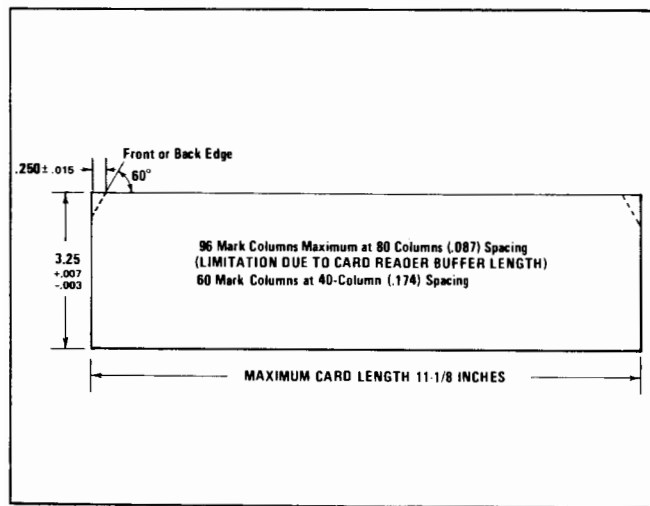

Figure A-1. Dimension Specifications for 11-Inch Cards
A-4. The HP Mark Readers use standard size tab cards (3-1/4 inch x 7-3/8 inch) for data entry. Each standard card can contain a maximum of 12 rows and 80 columns of data. Data on the cards may be coded by punch, by marking pre-printed boxes with an ordinary soft-lead pencil or coded by a combination of punched holes and marks. Cards up to 11-1/8 inches with 96 data columns can be read (see Figure A-1; 96 columns maximum per 11-inch card, 80 columns maximum per 7-3/8-inch cards). Reading of columnar data is controlled by clock marks printed along the bottom edge of the card. To properly synchronize sensing of the clock marks with the penciled data marks and/or punched holes, dimension and ink specifications contained in this document must be carefully followed. With the encoder option, (003), some cards can be read without a clock track.